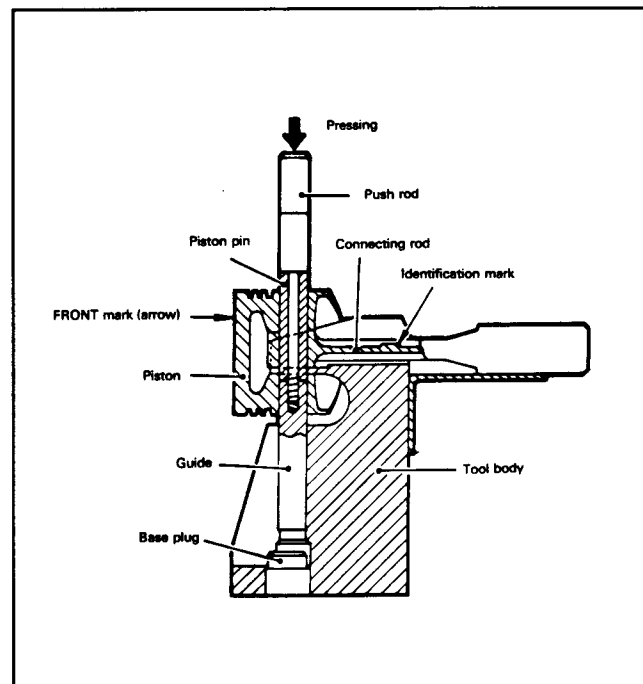

Figure 88
13. To assemble the piston to the connecting rod, press the piston pin into the set position. Use the piston pin setting tool (Fig. 88). Make sure the identification mark of the rod and the arrow mark on the piston head are directed up.